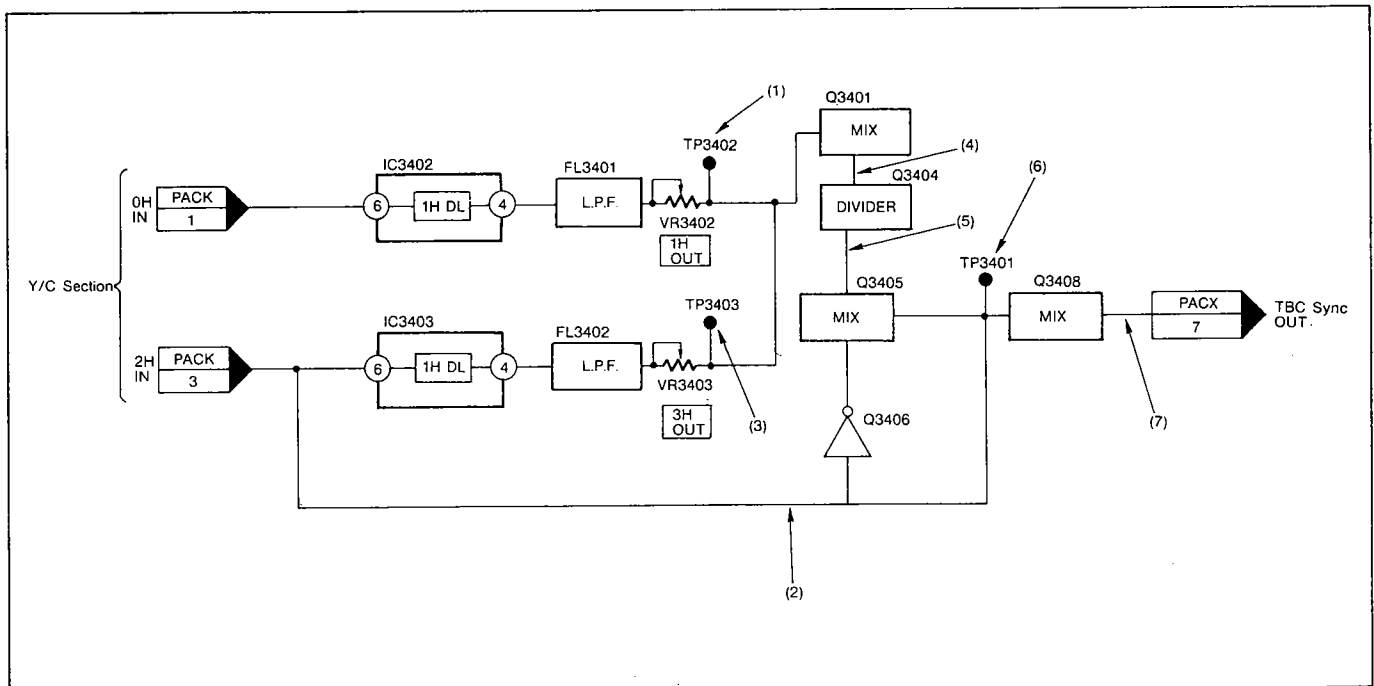

Figure T3 The Simplified Block Diagram of T.B.C. Noise Reduction Circuit
A simplified version of the block diagram showing the Sync Noise Reduction circuit is shown in Figure T3. The main purpose of the circuit is to "clean up" the sync pulse from noisy to sharp edges.
It can be seen from Figure T3 that: (2) improve S/N ratio, 1H delayed (1) and 3H delayed (3) are mixed (4). Secondly, to identify poor sync pulses, this signal (4) and inverted 2H delayed are mixed (6). Finally, to produce a sharper edge on the sync, this signal (6) and 2H delayed (2) are mixed to produce sync output (7).